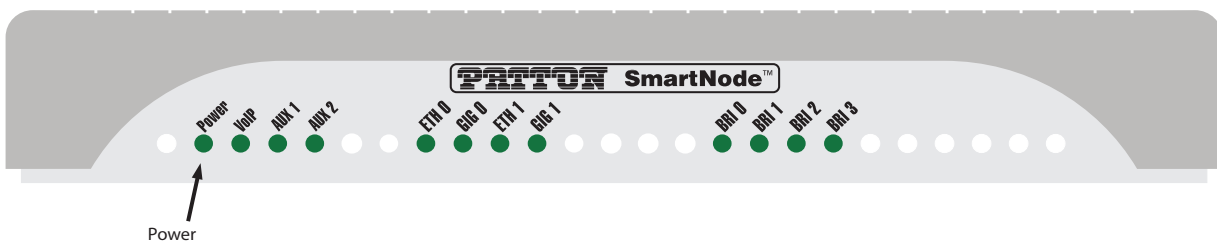

Figure 6. Power LED (SmartNode 5530 shown)
4. Verify that the green *Power* LED is lit (see figure 6). Blinks fast during bootloader phase and blinks slow during boot process of Trinity Software. Becomes solid when the system is up and running.